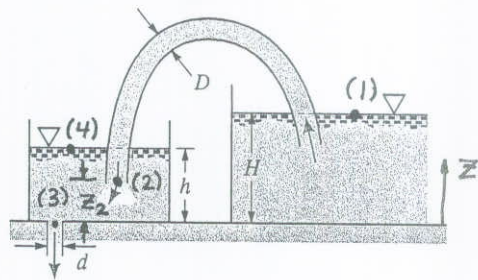

FIGURE P3.58
3.58 As shown in Fig. P3.58, water from a large reservoir flows without viscous effects through a siphon of diameter  $D$  and into a tank. It exits from a hole in the bottom of the tank as a stream of diameter  $d$ . The surface of the reservoir remains  $H$  above the bottom of the tank. For steady-state conditions, the water depth in the tank,  $h$ , is constant. Plot a graph of the depth ratio  $h/H$  as a function of the diameter ratio  $d/D$ .